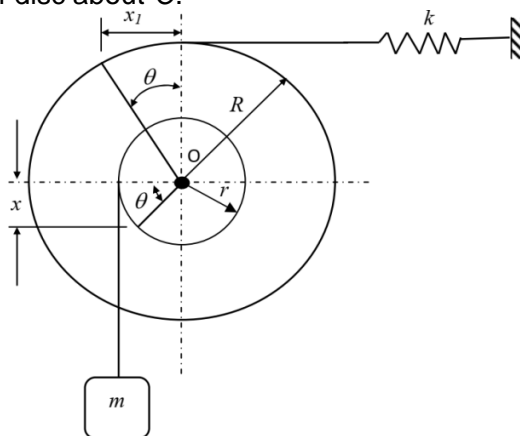

Fig.1
**b) Find the natural frequency of the system shown in Fig. 1., Take  $I_O$  = Combined moment of inertia of disc about O. (5)**